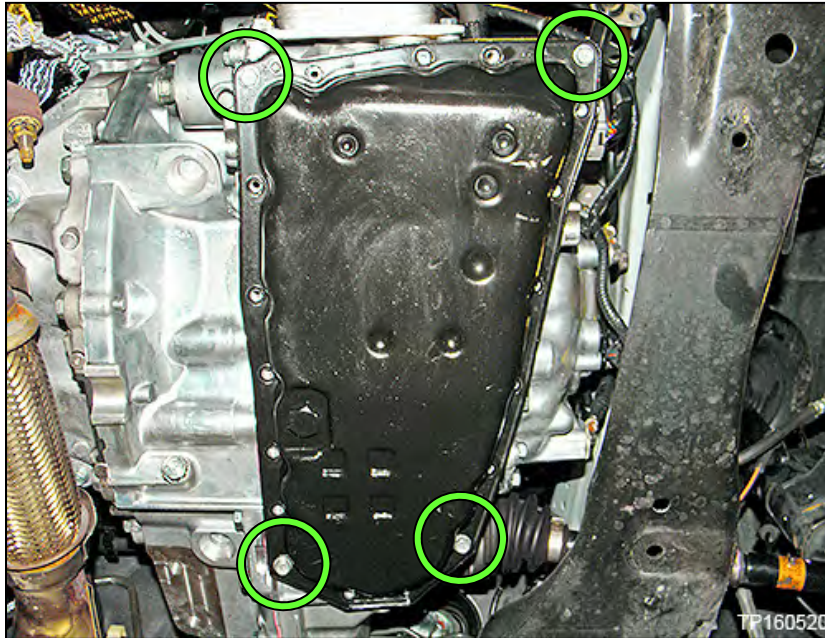

Figure 24
9. Temporarily install the oil pan gasket and oil pan with four oil pan bolts to corners of the oil pan, hand tight (Figure 24).